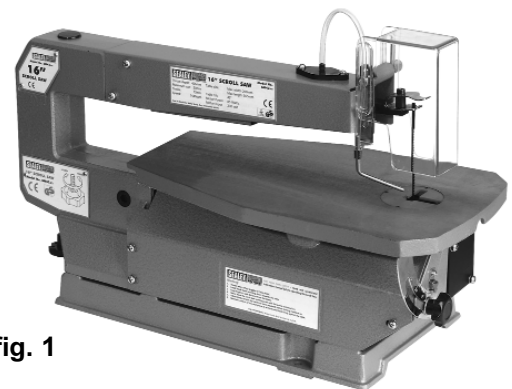

fig. 1
- 3.2.9. Push free end of tube onto stub mounted on blade arm (see fig.1).